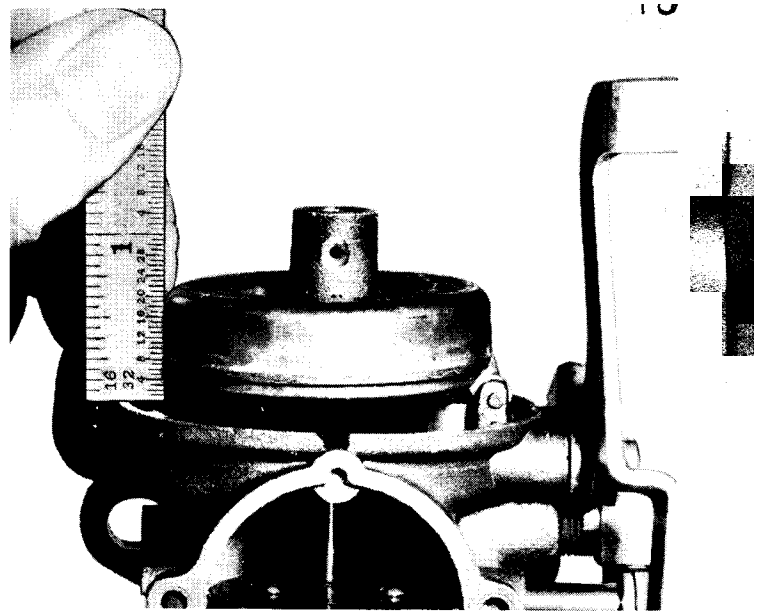

Figure 12. Float Clearance
4. There should be a  $3/32$ " clearance between outer surface of casting and free end of float (side opposite needle seat). Adjust by bending lip of float. (Figure 12)